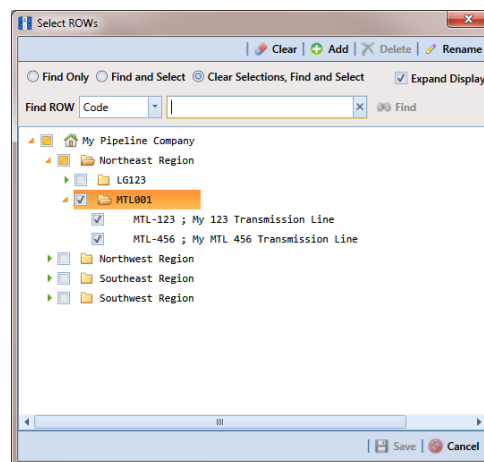

Figure 10-27. Select ROWs
- 1 Select one or more pipeline segments in the *Select ROWs* window. Choose pipeline segment(s) with facilities you want to include in the Bridge definition. Click  **Save** to close the window (Figure 10-27).